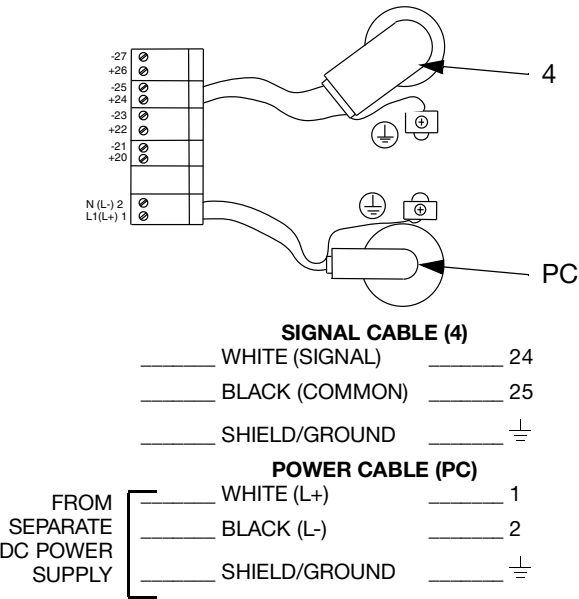

FIG. 9. Power and Signal Connections at Meter, ProMix 2KS/2KE/3KS and ProControl 1KS
The signal cable (4) is factory assembled to the meter. The power cable (PC) is user-provided. If cables need servicing or replacement, see FIG. 9 and Table 1 to connect to meter.